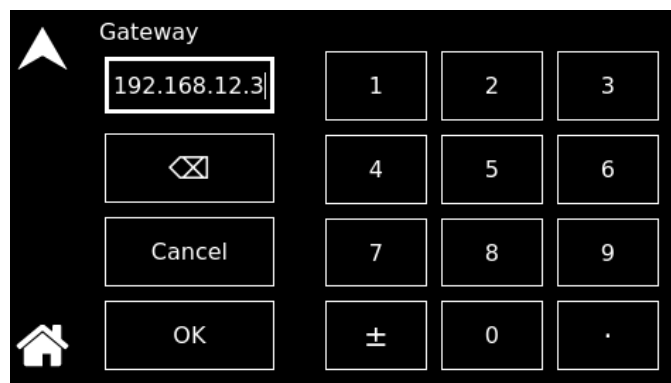

**Figure 13-45. LAN Screen - Gateway Address**
- **Gateway Address:** Sets the gateway address when DHCP is turned off in the LAN CONFIG sub-menu and when AUTO IP is selected, set the gateway address to all zeros so that the gateway address would be requested from the network; when DHCP is selected, the gateway address is assigned by the network DHCP server. Refer to Figure 13-45.